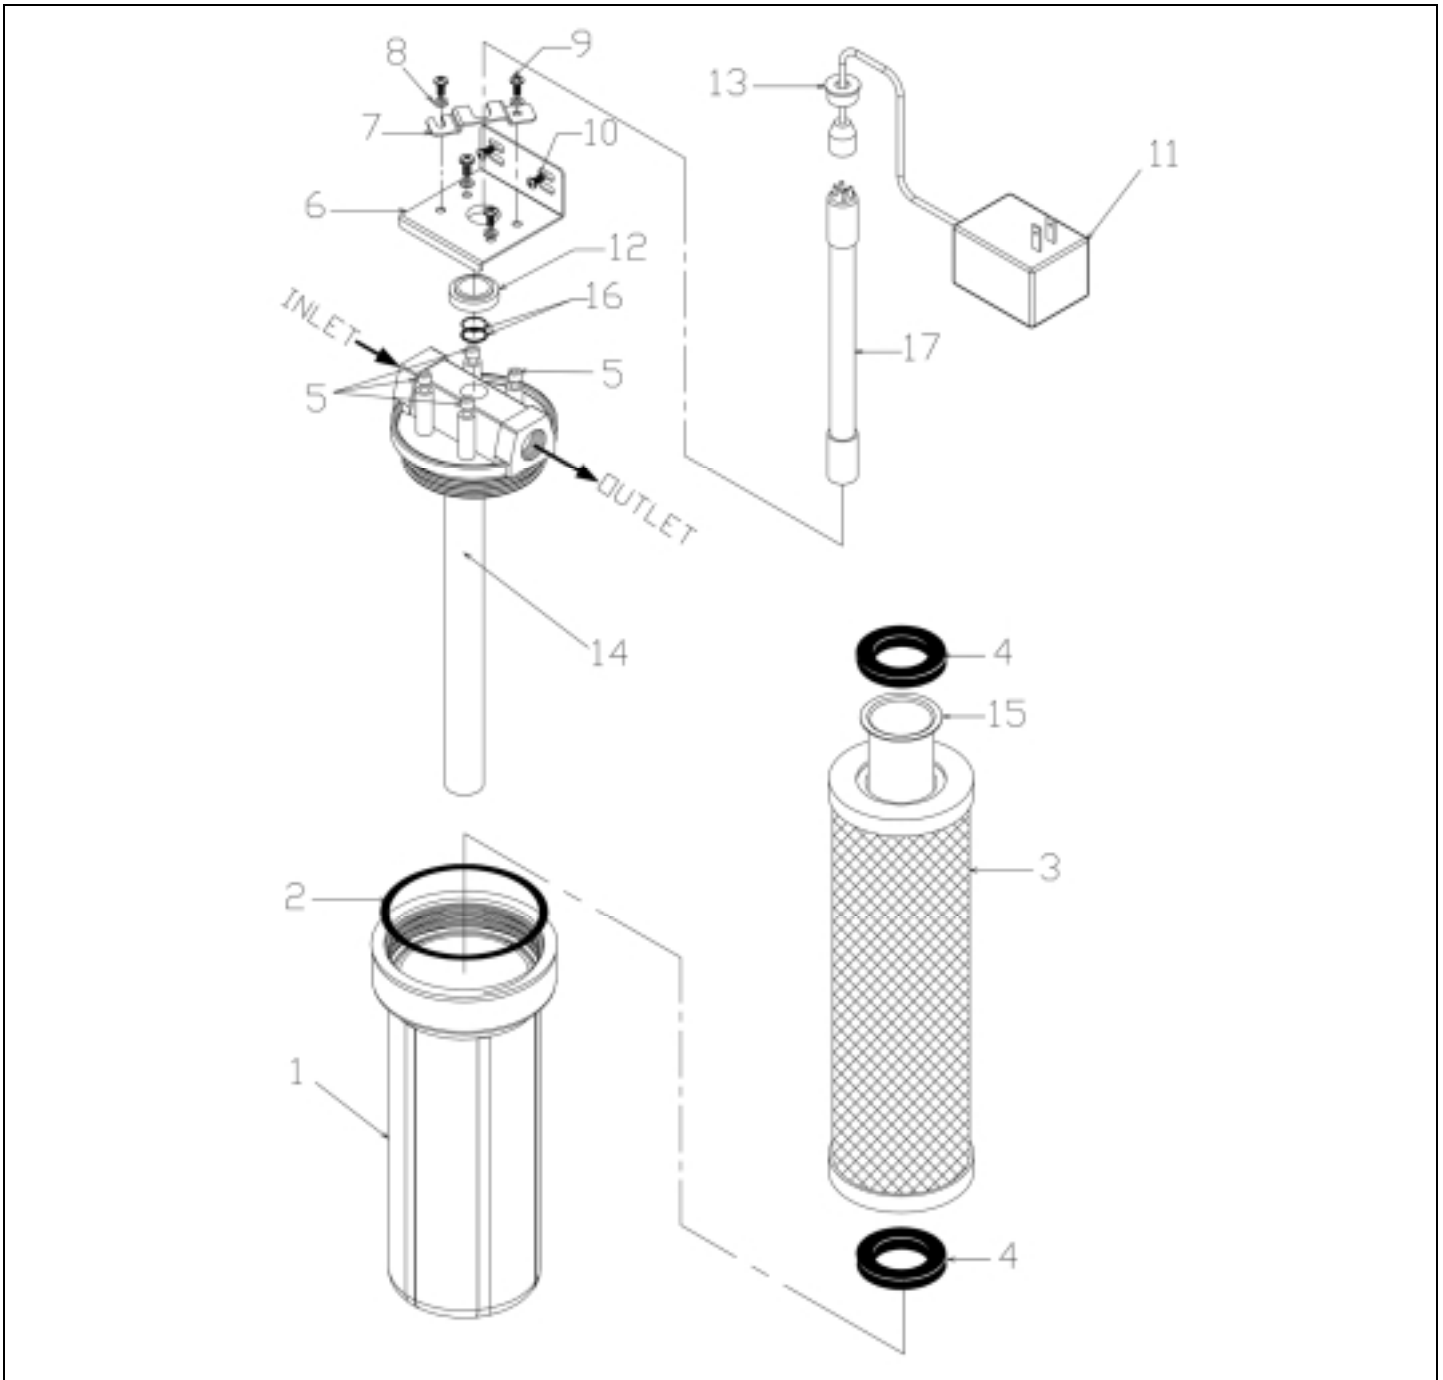

Figure 7 Exploded Schematic, PURA UV1Series
NOTE: All Item callouts refer to Figure 7.
2. Install EPCB™ Sleeve (Item 15) into EPCB™ Carbon Filter (Item 3) as shown in Figure 7.
3. Insert filter/sleeve assembly into sump as shown in Figure 7 with both Filter Gaskets (Item 4) in place.
CAUTION: Verify that inlet and outlet ports are connected to appropriate inlet/outlet pipes (see Figure 7).